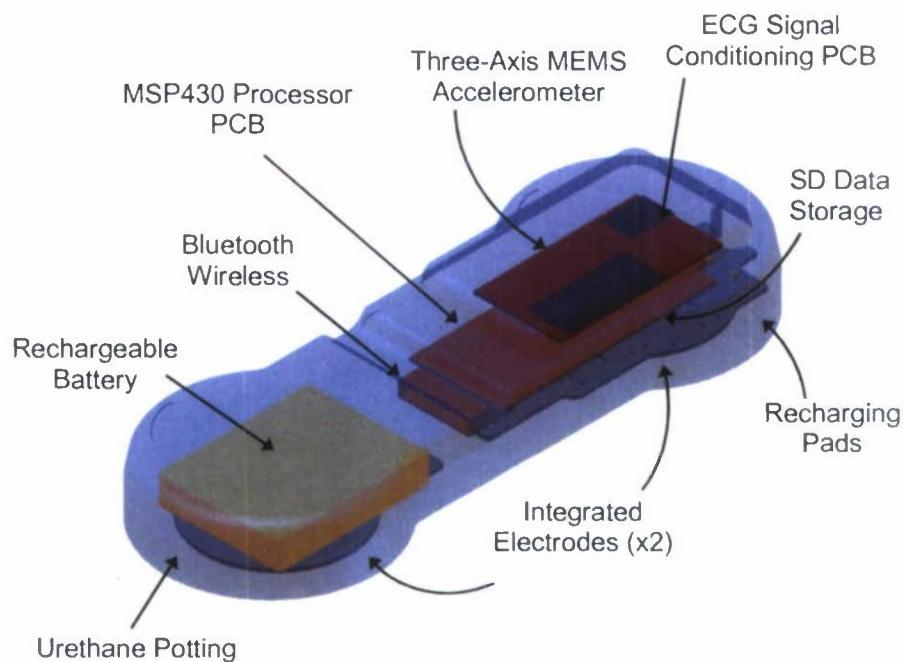

Figure 4. Layout of Components within the DHMS ECG Sensor
The major internal components of the DHMS ECG sensor are shown in Figure 4. As can be seen, the device is built around a MSP430 processor from Texas Instruments. The MSP430 digitizes the ECG signals, processes the signals to measure the heart rate, stores the data in local nonvolatile memory (SD), and services the digital wireless link (Bluetooth). The ECG signals themselves are received from the body via two integrated ECG electrodes on the bottom of the device. The low-level ECG signals from the body are conditioned by analog circuitry built into a daughter card mounted above the MSP430. The device is powered by an integrated, rechargeable, lithium polymer battery pack (3.7 V, 280 mA-hrs). The battery is recharged via gold pads that are exposed on the bottom of the sensor which mate to power pins on the Creare DHMS sensor dock. The whole device is potted in urethane to make it waterproof and pressure tolerant.